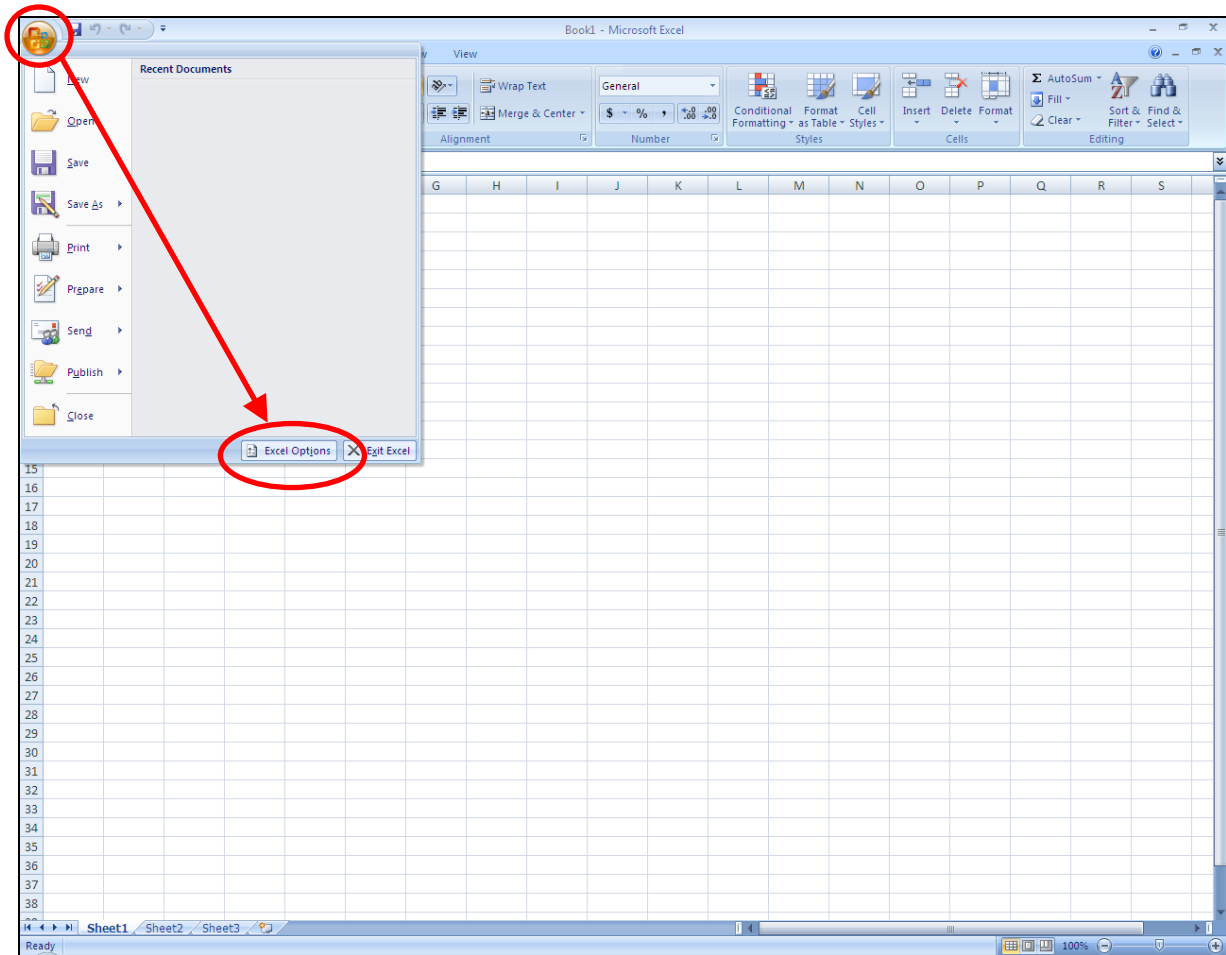

Figure 2.6: Registering FluidEXL *Graphics* as Add-In in Excel® 2007
- Click on the "Excel Options" button in the menu which appears (see Figure 2.6)